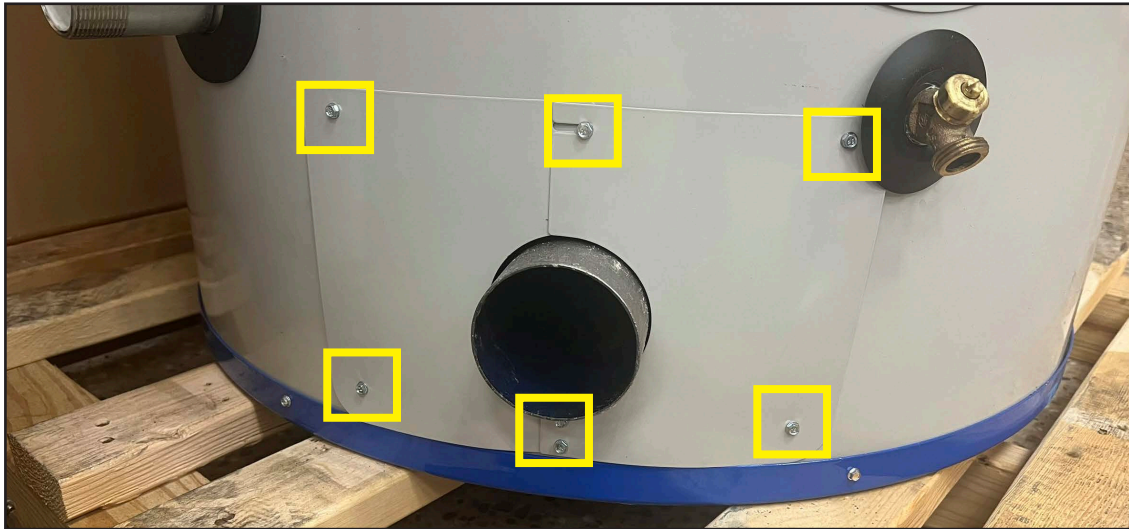

Fig. 25
4. Remove the access door to gain access to the flue gas temperature sensor (Fig. 25).